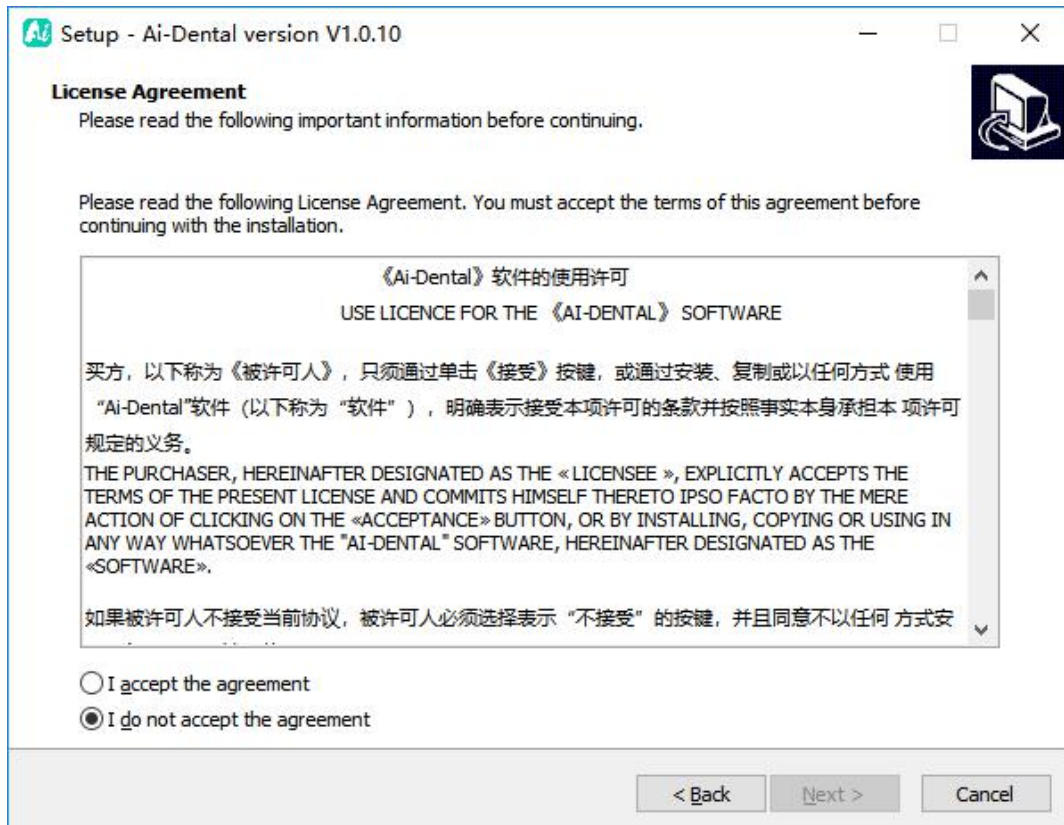

Figure 4
3.1.4 Read the software license agreement, agree to this agreement and click “I accept the agreement”, click Next to continue installation, disagree with this agreement and click “I do not accept the agreement” to exit the installation program, as shown in Figure 4.